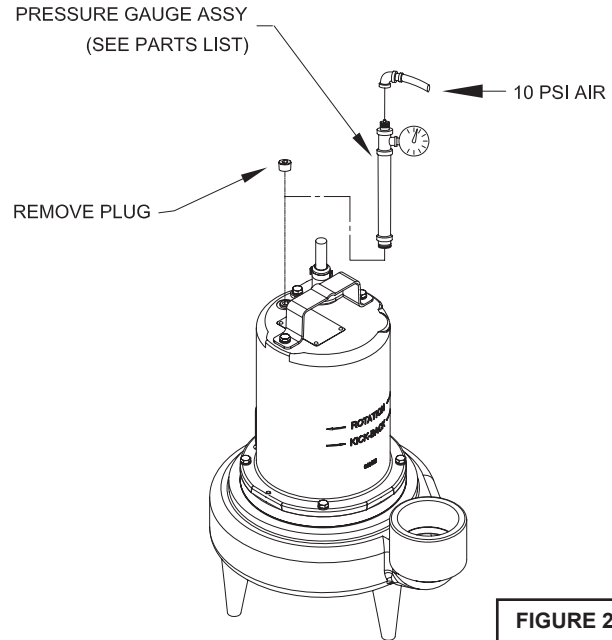

FIGURE 2
Pumps that have had the oil drained from the Motor Housing - Apply pipe sealant to pressure gauge assembly and tighten into pipe plug hole (See Figure 2). Pressurize motor housing to 10 P.S.I. Use soap solution around the sealed areas and inspect joints for "air bubbles". If, after five minutes, the pressure is still holding constant, and no "bubbles" are observed, slowly bleed the pressure and remove the gauge assembly. Replace oil as described in paragraph F-1.4. If the pressure does not hold, then the leak must be located and repaired.
Pumps that have NOT had the oil drained from the Motor Housing - The pressure test may be done with the oil at its normal level. Remove pipe plug (19) from motor housing (5). Apply pipe sealant to pressure gauge assembly and tighten into hole (see Figure 2). Pressurize motor housing to 10 P.S.I. Use soap solution around the sealed areas above the oil level and inspect joints for "air bubbles". For sealed areas below the oil level, leaks will seep oil.
Motor Housing- Set unit upright and refill with new cooling oil as per Table 1 (see parts list for amount). Fill to just above motor as an air space must remain in the top of the motor housing to compensate for oil expansion (see Figure 2, 11 or 12). Apply pipe thread compound to threads of pipe plug (19) then assemble to motor housing (5).